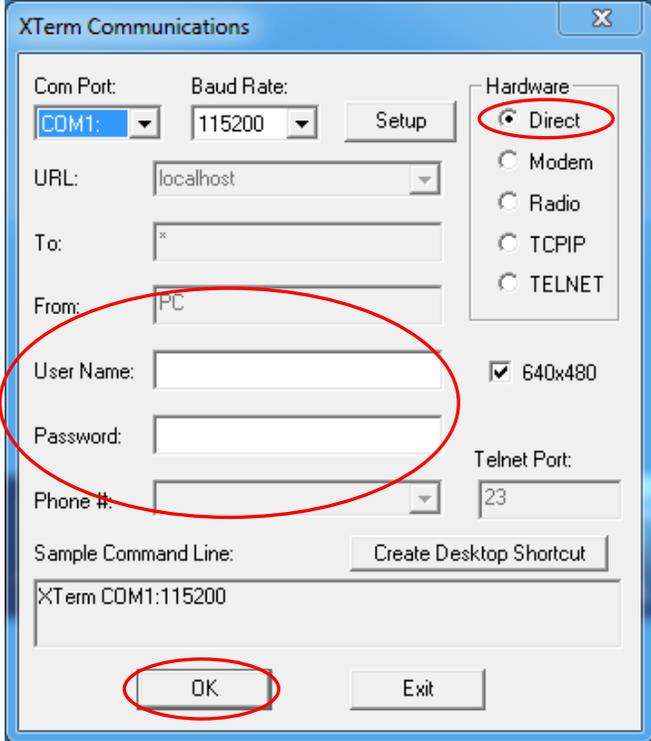

Figure 3-5. Xpert connect screen.
1. Start Xterm software on the laptop. You may need to change the COM port using the drop-down menu on the upper left corner of the graphical user interface (fig. 3-5).